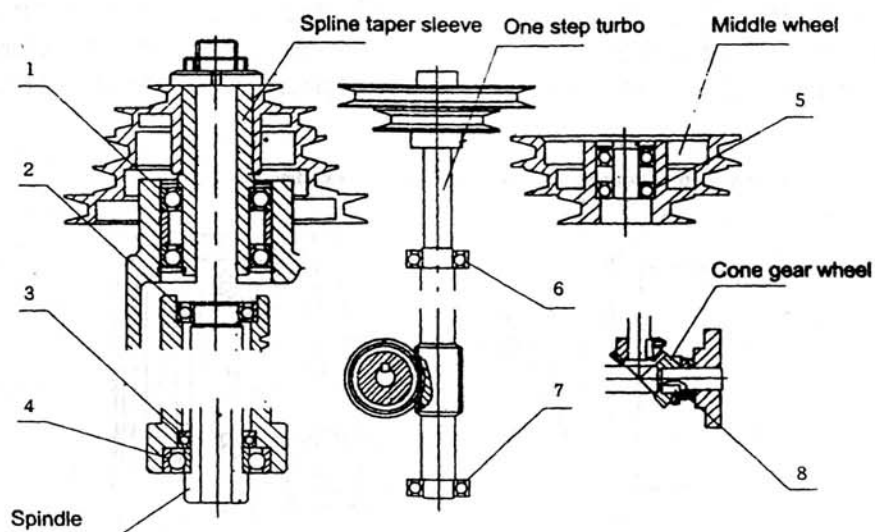

Figure 14
6.1 The lubrication of main mesh position, see table 3. lubrication position and parts name see figure 13 and figure 14.
after a period of use, if you find the bearing is noisy, it is mean the bearing is worn, which need to change. The position of bearing as figure 14, the model and amount see table 4.